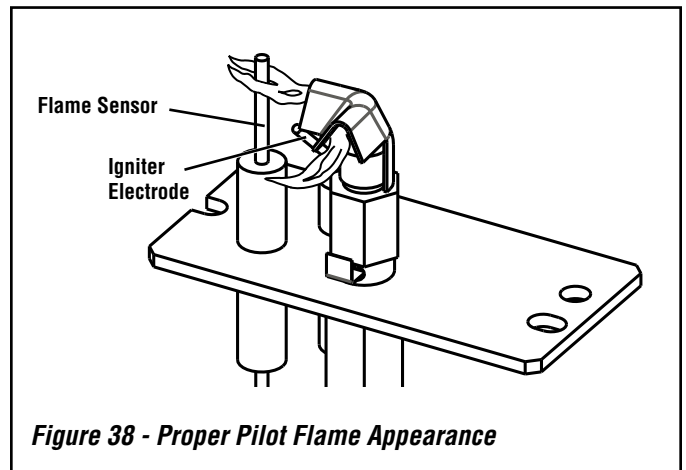

Figure 38 - Proper Pilot Flame Appearance
- Periodically inspect the pilot system for proper flame. Turn the pilot ON/Auto switch to the ON position. Ensure the igniter lights the pilot. The pilot flame should engulf the flame sensor as shown in **Figure 38**. See *Intermittent/Standing Pilot Mode* on **Page 24** for instructions on switching from intermittent ignition to a standing pilot.